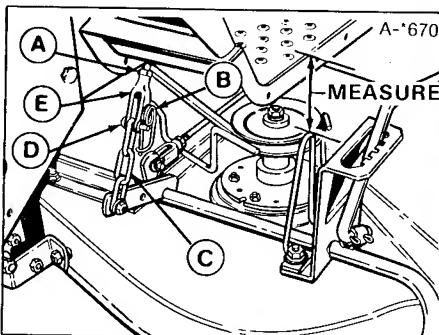

Figure 37. Lift Assembly - Small Lift Lever
2. Measure the distance between top of upstop bracket and bottom of footrest (figure 37). The measurement should be 2-13/16 inch.
3. To adjust, disconnect clevis (E) from chain. Loosen nut (A) and turn clevis to raise or lower mower. Reconnect chain to check measurement. When correct, tighten nut against clevis.